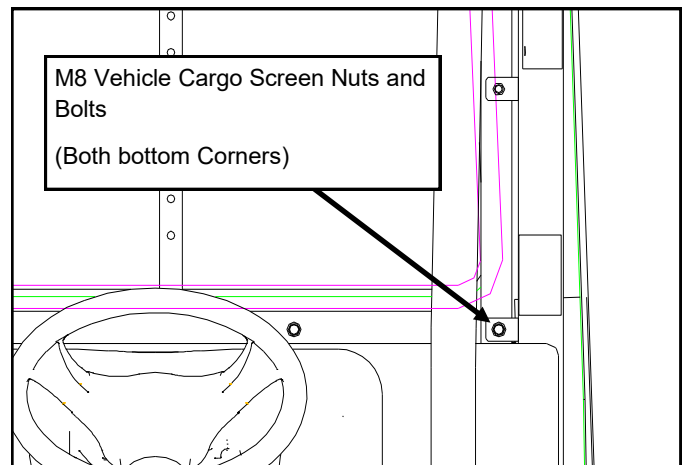

Fig. 1
1. Remove the (2) 8mm nuts and bolts from the bottom corners of the cargo screen and discard. (see fig.1)